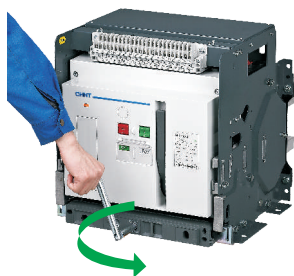

Figure 31 Turning the handle counter anti-clockwise
a. First, move the switch disconnector body from the "connected" position to the "separated" position (turn the handle counter clockwise), as shown in Figure 31.